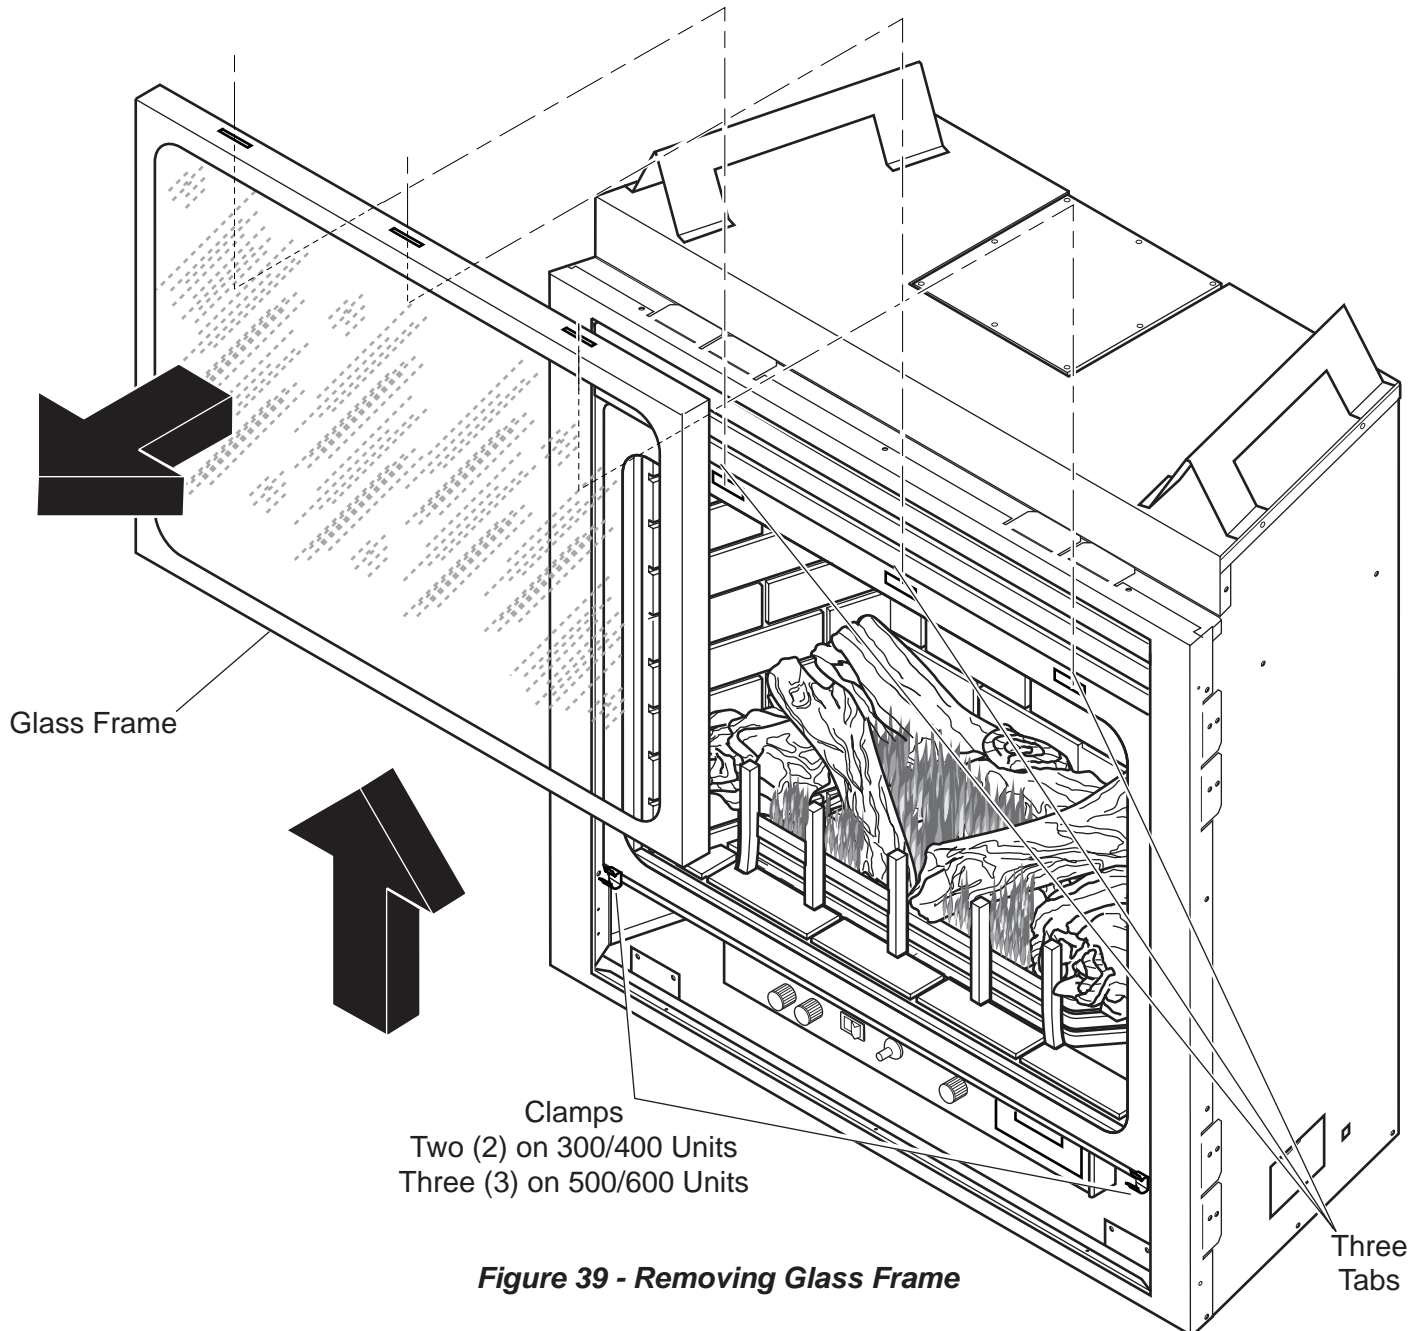

Figure 39 - Removing Glass Frame
1. Release two clamps on bottom of fireplace. *See Figure 39.*